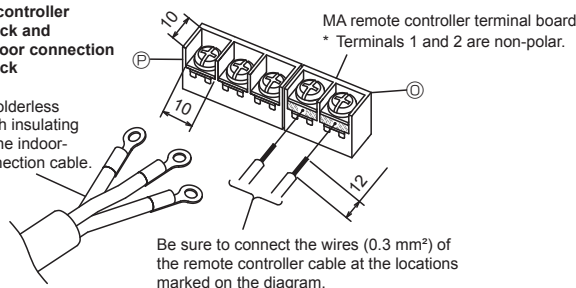

Fig. 4-3
- Pass and wire the remote controller cable and the indoor - outdoor connection cable through the wiring entries given in the diagram. [Fig. 4-1 ⑤, Fig. 4-2, Fig. 4-3]